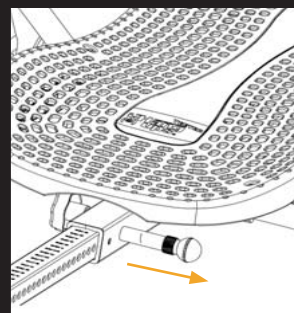

Fig. 2
- Pull out the height selector locking pin with your right hand while sliding the Main Shaft with your left (Figure 2).